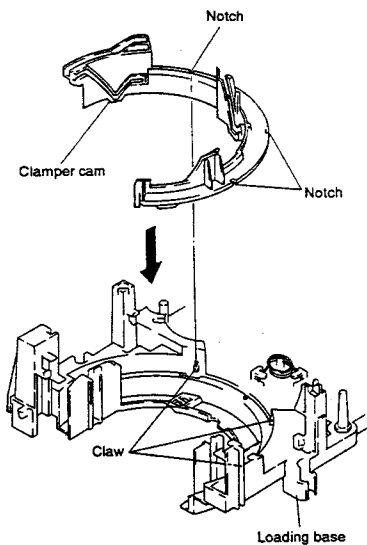
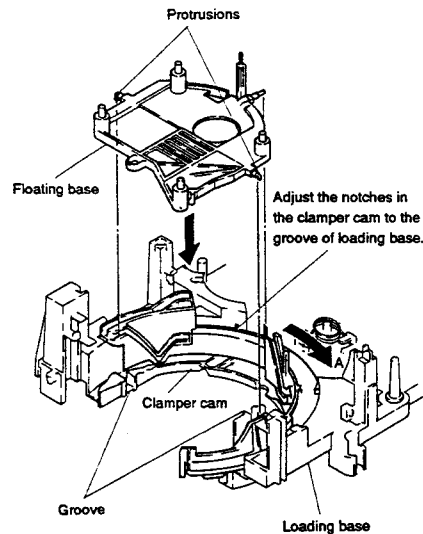

Fig. 2-1
Fig. 2-2
- (1) As shown in Fig. 2-1, adjust the notches (3 points) in the clamber cam to the claws (3 points) of the loading base, and set the clamber cam to the position as the arrow shows.
- (2) After adjusting the notches in the clamber cam to the claws (3 points) showing in Fig. 2-1, place the protrusions of the floating base on the grooves (2 points) of loading base as the arrow shows in Fig. 2-2.